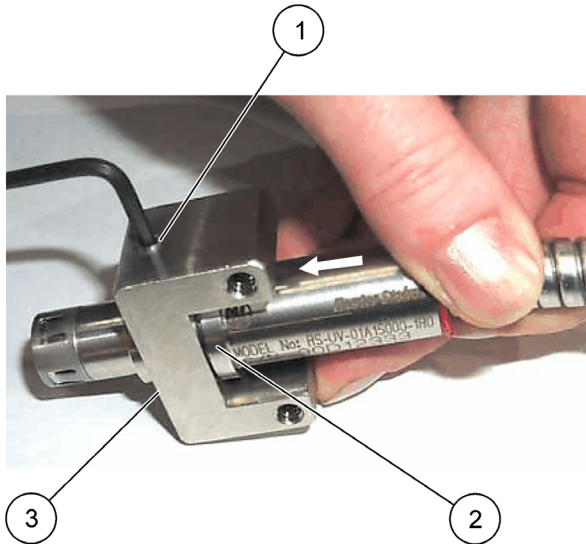

Figure 13 UV Sensor U-Bracket
- 2. Insert the sensor body into the sensor U-bracket until flush with the bracket. Secure in place with #10 set screw. Refer to Figure 13.